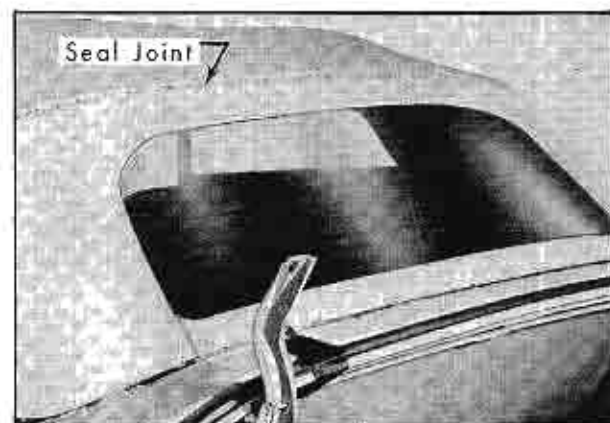

Fig. 3-115 Sealing Top Material to Rear Bow Joint
19. Recheck final marked position of back curtain outer ends and top material at trim stick (see Step 13), draw top material to desired tension (not "drum" tight) and tack top material to rear bow, Fig. 3-115.